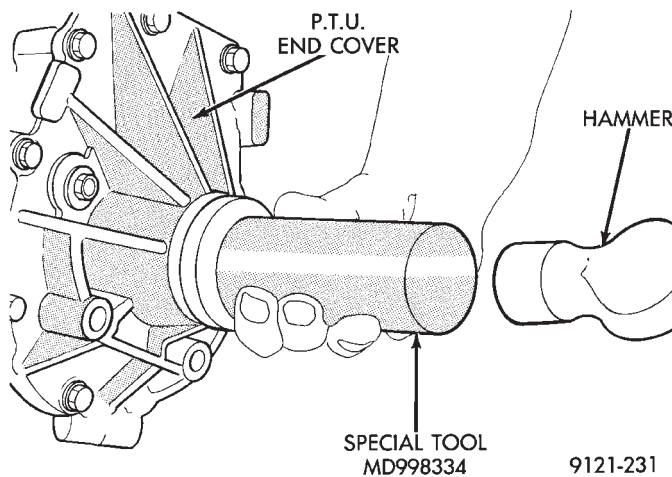

Fig. 2 Seal Installation
- (1) Clean and inspect seal area.
- (2) Install new seal with seal installer MD998334 (Fig. 2).